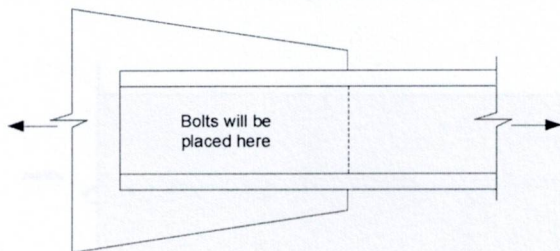

Figure: 3.1
3. (a) Determine the required bolts and an appropriate layout to transmit a dead load of 80 kips and a live load of 240 kips through two C 10x30 to one gusset plate as shown in Figures: 3.1 and 3.2. All materials are A36. Bolts are $\frac{3}{4}$ inch. Use three lines of bolts across the web of the channel. A 325 (standard holes) in a bearing-type connection with threads excluded from shear planes. Channel Section properties: $A_g=8.82 \text{ in}^2$, Web thickness = 0.673 in, Flange thickness = 0.436 in 7.0